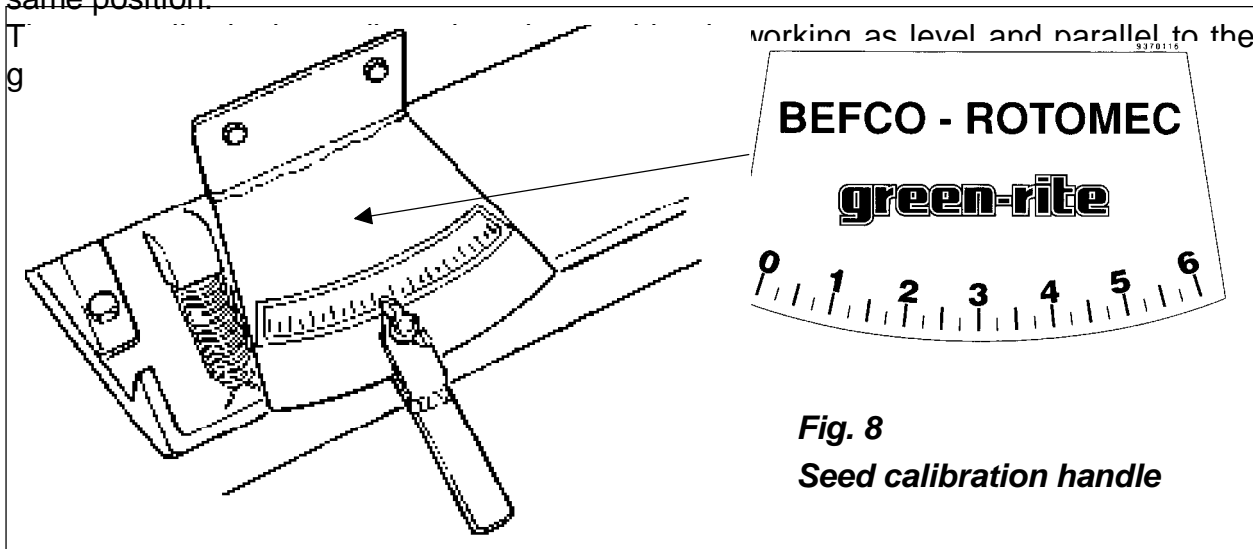
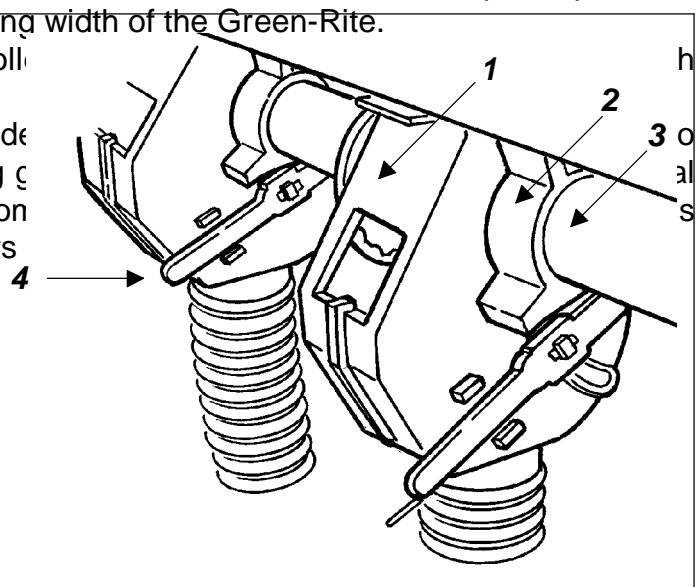

Fig. 8
Fig. 9
The Green-Rite hopper capacities are for the GRT-145 of 150 litre (5.29 cu.ft.), for the GRT-165 of 170 litre (6 cu.ft.) and for the GRT-205 of 215 litre (7.6 cu.ft.). The hopper runs the entire width of the machine. It has a continuously rotating ground driven agitator to break-up clods and ensure free flow through the distribution system. On the bottom of the hopper are a certain number of rectangular slots (8, 9 or 11 depending on the width of the Green-Rite) to allow material passage. The **seed cups** mounted under the hopper, which are made entirely of non-corrosive material (nylon and fibreglass), contain an internal gear that rotates inside a housing. The amount of this gear inside the housing is regulated by a calibration handle on the rear of the hopper. The position of the handle, which has a scale of 0 to 6, determines the amount of seed collected (**see fig. 8**). The seed cups are a force feed system driven by the roller.
The material is held inside the groove of the gear until the groove rotates to the opening at the bottom of the hopper. This rotation is driven by the roller as it moves along the ground. When the handle is in position 0, the gear is completely outside the seed cup and no seed is collected, with the handle in position 6, the gear is totally inside the cup and distributes at its maximum potential (**see fig. 8**). A secondary regulation is the lever located on the side of each cup housing. This controls the position of the cleanout gate (top, middle, and bottom). Its position is determined by the size and shape of the material being dispersed (**see fig. 9**). The top position is for the smaller seeds, middle for the medium sized seed and bottom for larger seeds. Attached to the bottom of each cup is flexible tubing that the material flows through. As the material exits, it hits a split ring which divides the flow until it hits a splash pan and uniformly spreads over the entire working width of the Green-Rite.
5. Move the calibration handle located in the rear of the hopper to a position between 1 and 6 (**see fig. 8**).